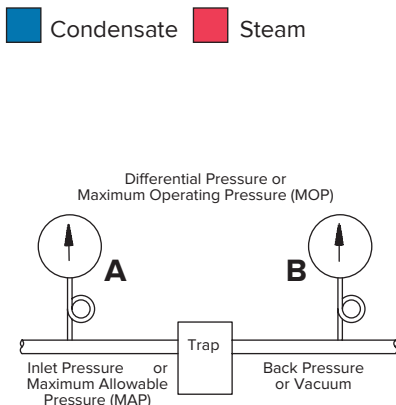

Figure CG-24. "A" minus "B" is Pressure Differential. If "B" is back pressure, subtract it from "A". If "B" is vacuum, add it to "A".
3. Pressure differential. Maximum differential is the difference between boiler or steam main pressure or the downstream pressure of a PRV and return line pressure. See Fig. CG-24. The trap must be able to open against this pressure differential.
4. Maximum allowable pressure. The trap must be able to withstand the maximum allowable pressure of the system or design pressure. It may not have to operate at this pressure, but it must be able to contain it. As an example, the maximum inlet pressure is 350 psig and the return line pressure is 150 psig. This results in a differential pressure of 200 psi; however, the trap must be able to withstand 350 psig maximum allowable pressure. See Fig. CG-24.